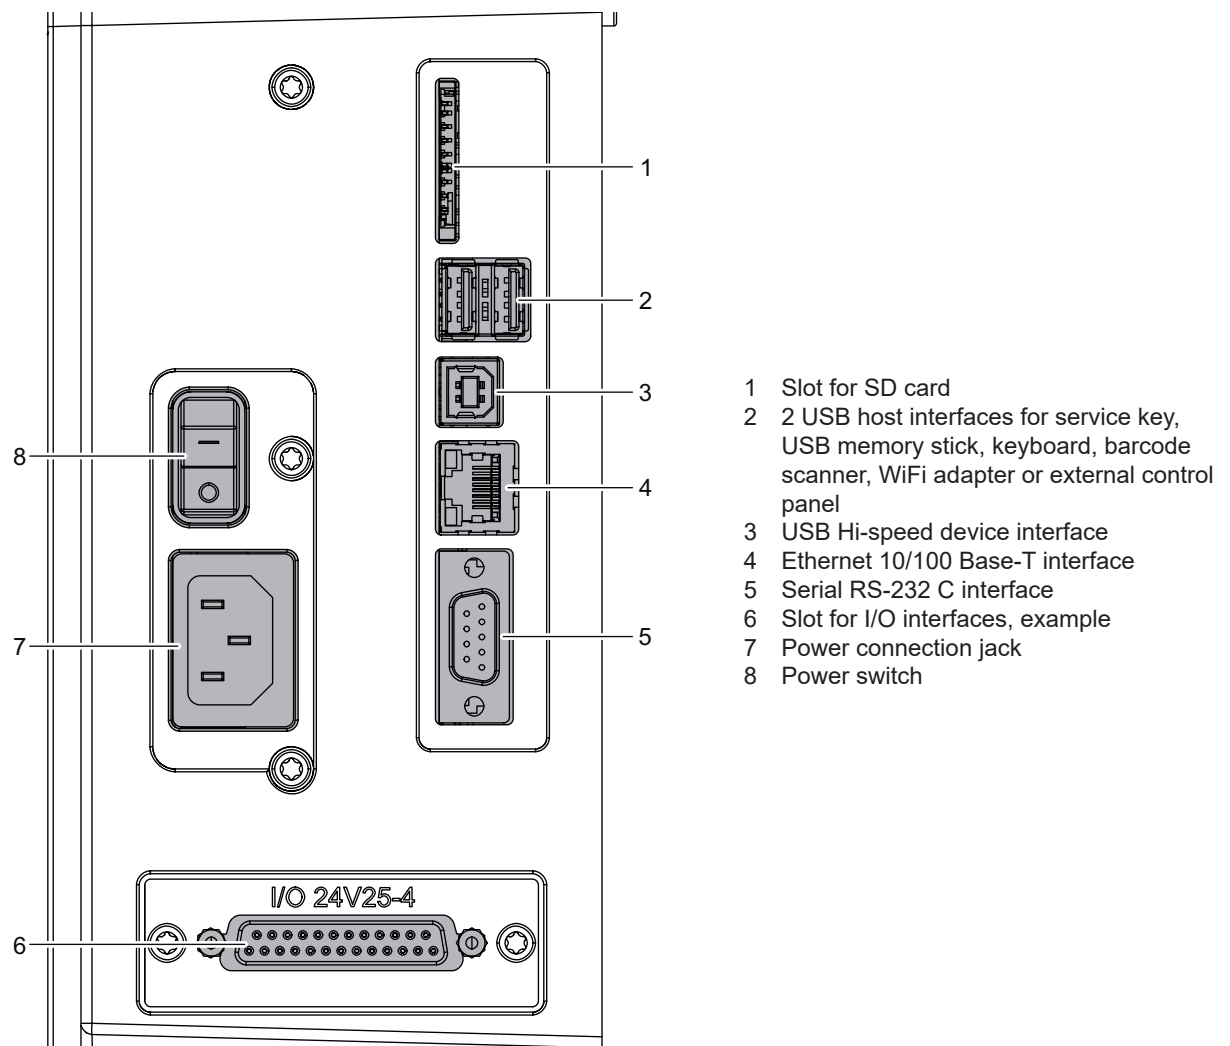

Fig. 4 Connections
The following options are available for the I/O interfaces slot (▷ Fig. 4/6):
The standard available interfaces and connectors are shown in Fig. 4.
2. Plug the power cable into the power connection socket (▷ Fig. 4/7).
- ▶ Switch the print module on at the power switch (▷ Fig. 4/8).